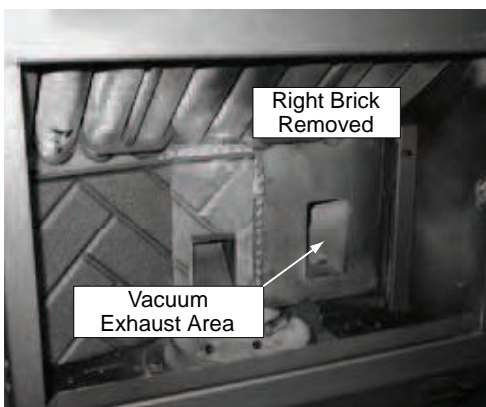
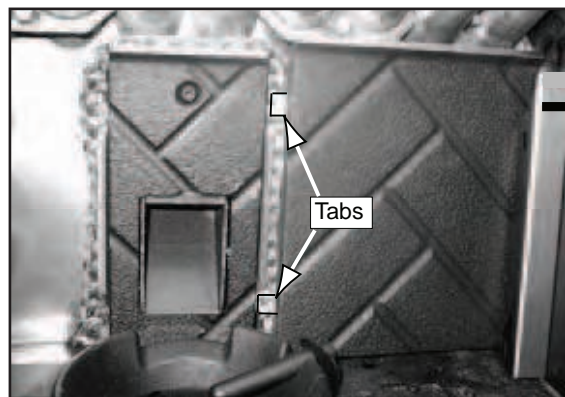

Figure 37.3
Figure 37.4
1. Place right brick in behind the right bracket, and then slide to the left so the tabs are behind the center brick. **Figure 37.4**
5. Insert baffle into top front inside the firebox and pull forward. Then raise up the bottom end and insert baffle tab into slot on the top of the right bracket to lock into place. **Figure 37.3**. Place the left side hook at the bottom of the baffle over the top edge of brick for stability. **Figure 37.4**.